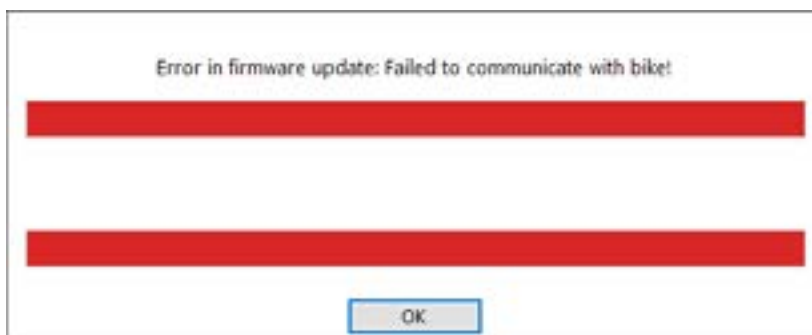

Figure 3.24 Auto-update – terminate communication
- Auto-update will end if you do not remove the battery within 2 minutes (Fig. 3.24). Press Auto-update again to continue.